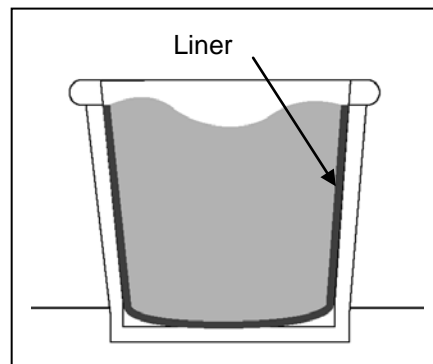

Fig. 5
5. If the container is not already watertight, use a plastic liner. Or if a clay pot is used, spray the inside of the pot with a clear acrylic sealant. Be sure to use a sealant that is safe for clay pots. Wait 24 hours for the sealant to dry before filling the container with water. Fig. 5